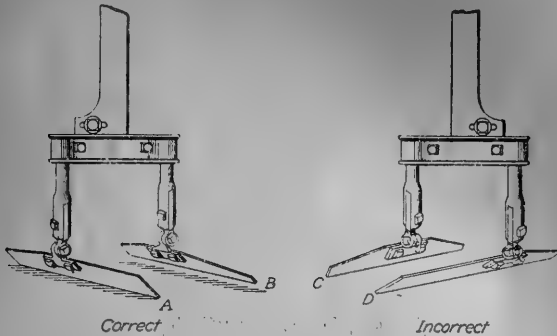

Fig. 1.—Correct and Incorrect Method of Setting the Blades
1. If there is a difference between the inside and outside blades in length or shape, care should be taken always to place the proper set on the inside shanks. On all the old surface cultivators the top edge of each inside blade tapers off toward the rear end, while the edges of the outside blades run straight back, as shown in Fig. 1. The sets can be distinguished in this way.
5. For average conditions each blade should be set at about a forty-five degree angle with the surface, as shown at A and B in Fig. 1. When the blades are set too flat, as at D, they lose suction; if set too deep, as at C, they scrape and cause ridging, because the soil cannot move smoothly over the blade and thus cannot leave the proper blanket on the surface to produce a mulch and to close all cracks.